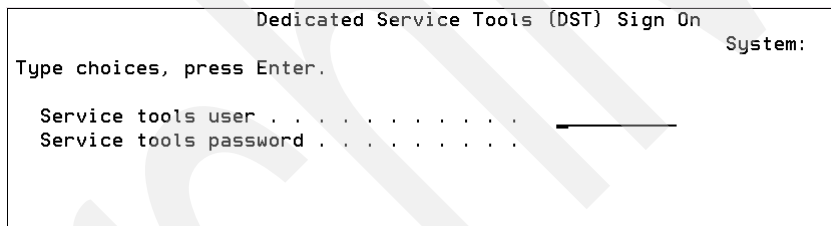

Figure 3-26 Signing in to the DST
- b. Sign in to the DST (Figure 3-26).